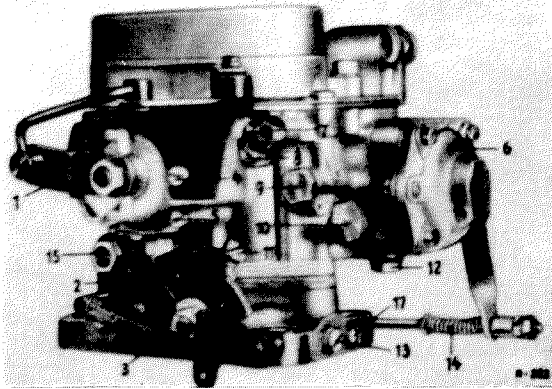

Fig. 01—3/38
1. Back out the idle adjustment screw (11) to the point where the throttle is completely closed. Then bring the idle adjustment screw up until it touches the idle stop and give it exactly one further turn (Fig. 01—3/38).
2. Screw the idle mixture adjustment screw (13) right in and then back it out exactly two turns.